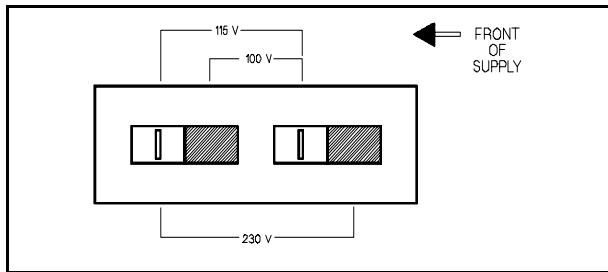

Figure 2. Line Voltage Selector (set for 115 Vac)
- Set two sections of the line voltage selector switch on the PC board for the desired line voltage (see Figure 2).